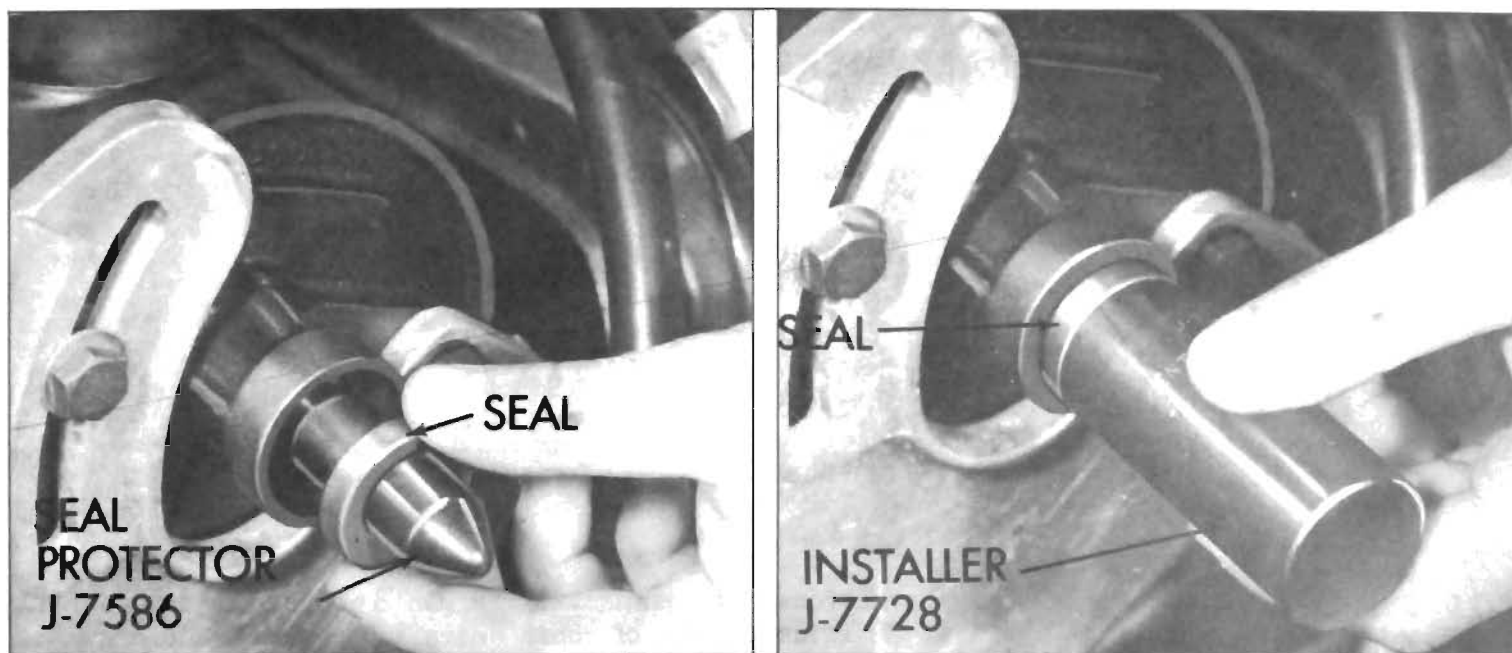

Figure 8-66—Installing Oil Pump Shaft Seal
1. Place Seal Protector J-7586 over shaft. Lubricate new seal with Buick Power Steering oil and drive in pump housing spring side first with Installer J-7728. See Figure 8-66. Just bottom seal in housing. Excessive force must not be used when driving seal in place.